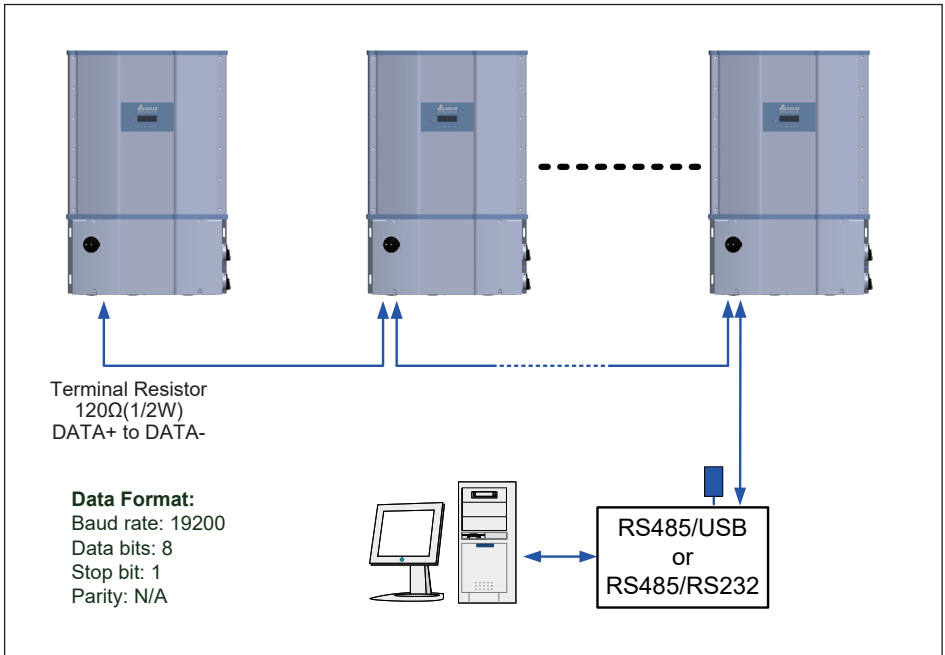

Figure 3-37: Multiinverter connection illustration
A 120ohm bus termination resistor and associated control switch are located on the communication board (See **Figure 3-37**) The switch function is as shown in **Table 3-2**.
- When several inverters are cascaded (i.e., "daisy-chained") only the last inverter in the chain must have its bus termination resistor switched ON. Refer to **Figure 3-37**.